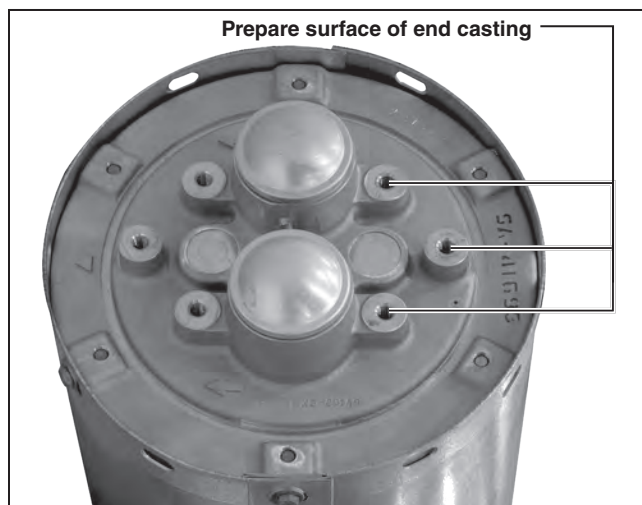

Figure 18. Wire-brush the surface of the end casting and prepare with aluminum connector compound.
- (b) Thoroughly wire-brush the indicator end-casting where the upper terminal pad is to be attached as well as the mating surface on the upper terminal pad, and immediately apply a liberal coating of Penetrox A or other suitable aluminum-connector compound. See Figure 18.